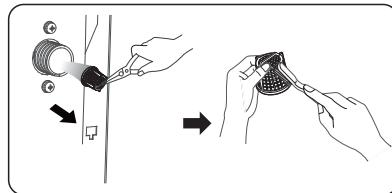

Fig. 20
- Clean the filter using a hard bristle brush under the running water (Fig.20).